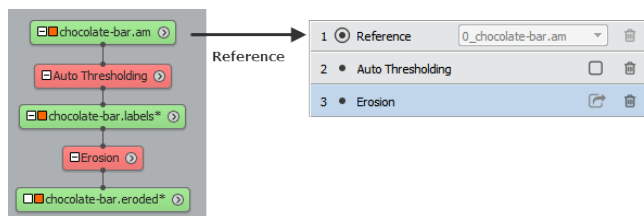

Figure 4.2: Linear workflow in pool and Image Stack Processing workroom
1. The "reference" data is the main input of the workroom. An ISP workflow always starts from the reference data. It corresponds to the starting point of a linear workflow. In Figure 4.2 is displayed a linear workflow and its ISP equivalent.